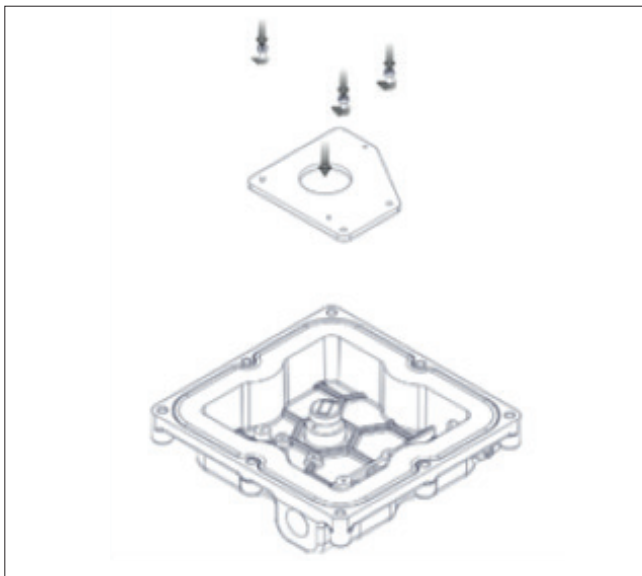

Figure 66. Assembling the Mounting Plate
2. Mount the Mounting Plate on the Housing with the help of 3 screw as shown in Figure 66